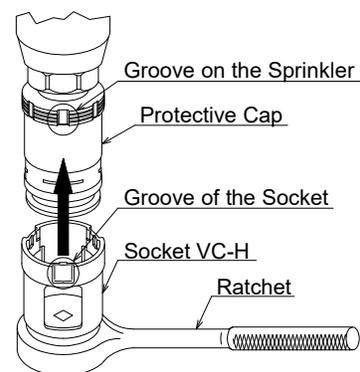

Figure 4: Ratchet & Socket
Step 2: With pipe thread sealant applied to the threads, hand tighten the sprinkler into the sprinkler fitting. Then tighten it with the Socket VC-H or Ratchet (3/8" drive) & Socket VC-H Combination (Ref. Figure 4). The grooves of the Socket must fit perfectly with the grooves on the Sprinkler for proper installation (Ref. Figure 4).